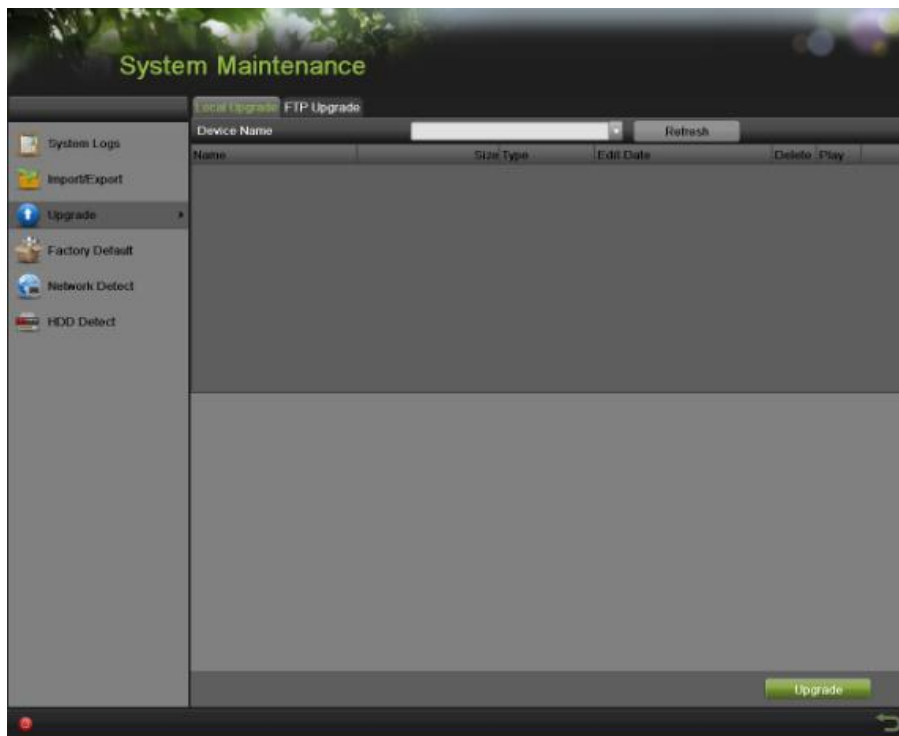

Figure 212 Local Upgrade Menu
2. Select the Local Upgrade tab, as shown in **Figure 212**.